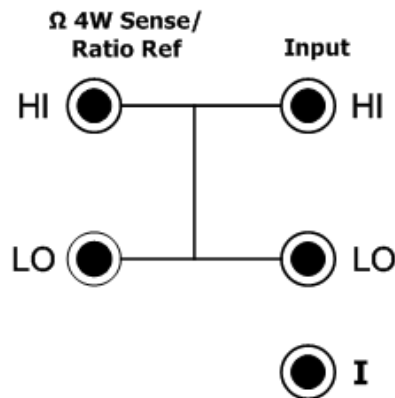

Figure 4-1 The Input HI-LO and Sense/Ref HI-LO Terminals in Short Circuit
3. See figure 4-1, short the terminals of both Input HI-LO and Sense/Ref HI-LO via plugging into the short pin, and the current terminal is opened. Then select **Zero** to perform Zero Calibration;